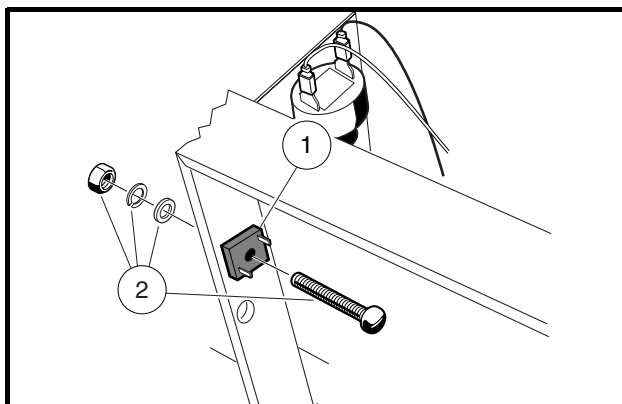

Figure 12-29 Headlight Diode
4. Disconnect wires from the headlight diode (1). Do not allow wires to touch (**Figure 12-29, Page 12-27**).
1. Mount the headlight diode to the frame using the mounting hardware and tighten to 25 in-lb (2.8 N·m) (**Figure 12-29, Page 12-27**).